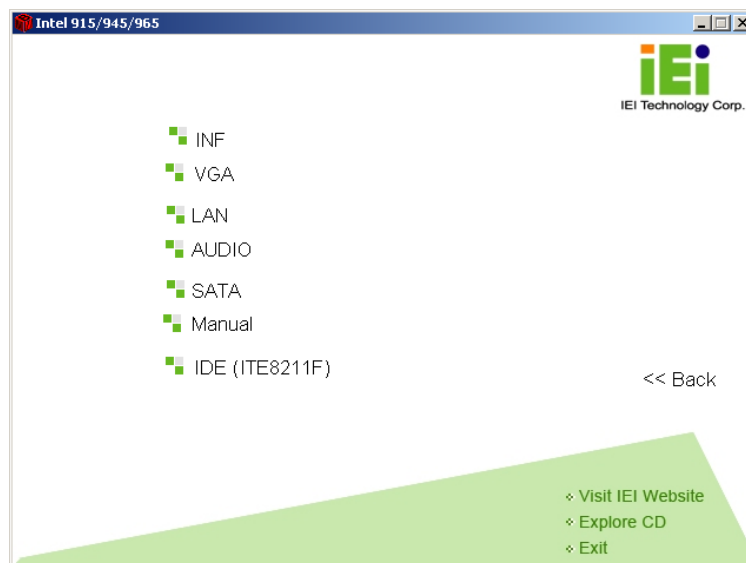

Figure 7-2: Available Drivers
Step 4: A new screen with a list of available drivers appears (**Figure 7-2**).
Step 5: Select the driver to install from the list in **Figure 7-2**. Detailed driver installation instructions follow below.
Step 1: Select **INF** from the list in **Figure 7-2**.
Step 2: Select the VGA driver from the list in **Figure 7-2**.
Step 1: Select **AUDIO** from the list in **Figure 7-2**.